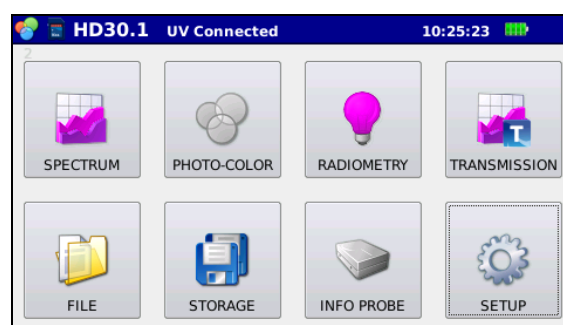

Fig. 3.3: start-up screen with HD30.S2 probe connected
- *Spectrum, radiometry and transmission* for the HD30.S2 probe (Fig. 3.3)